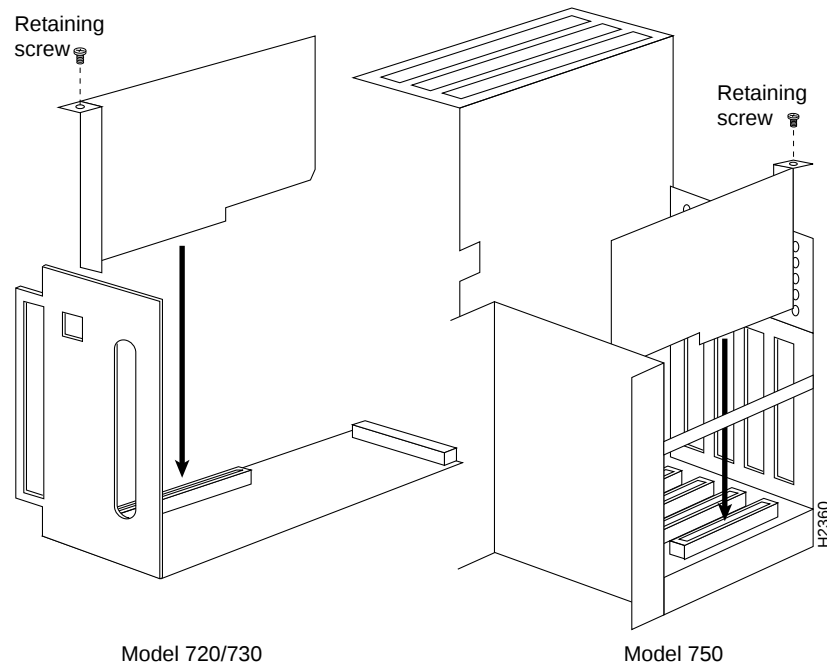

Figure 4-3 Inserting the EISA Adapter in the EISA Slot
Step 4 Without touching any electrical components, slide the adapter into the slot. Press firmly into place. See Figure 4-3.